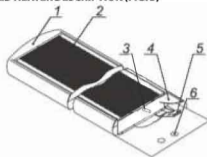

Fig. 3
4. INFRARED HEATER DESCRIPTION (FIG. 3)